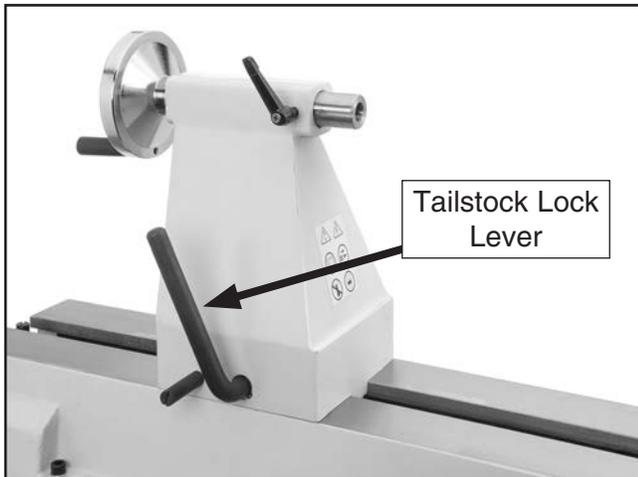

Figure 20. Tailstock lock lever location.
1. Loosen tailstock lock lever and move tailstock to desired position along bed, as shown in **Figure 20**.